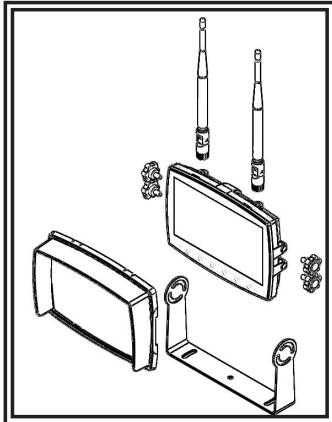

Figure 2
- Install the monitor on the U-bracket as shown in Figure 2. Adjust the monitor's position for the best viewing angle before tightening the two screws on each end.